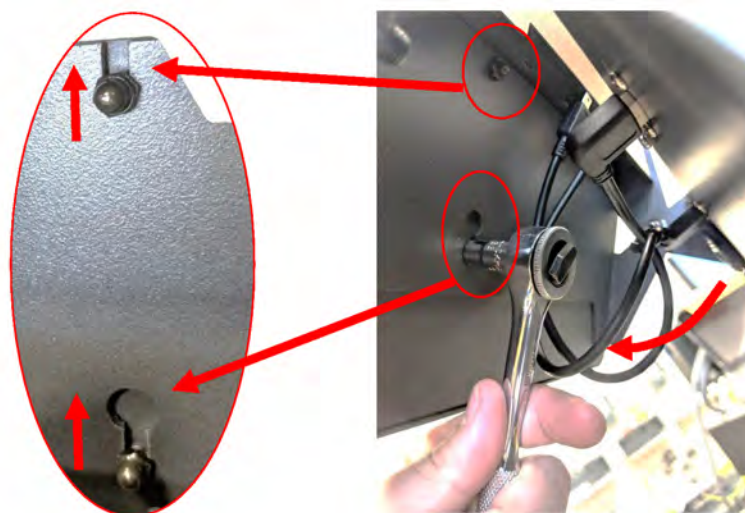

Figure 16-21 Loosen the Bottom Fasteners
4. Rotate the touch monitor to the full back position and loosen the two bottom fasteners (refer to Figure 16-21).